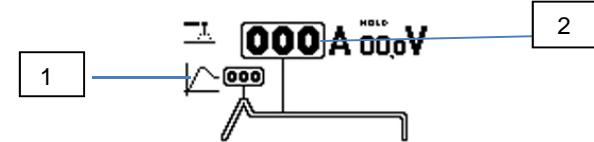

Fig.4
- OPÇÃO DE HOT START (fig. 4, ref. 1)
- CORRENTE DE SOLDADURA (fig. 4 ref. 2)